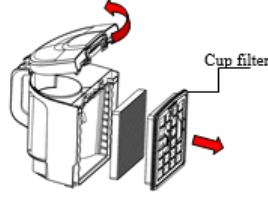

Fig.16
- c) As in fig. 16, get the cup filter out.